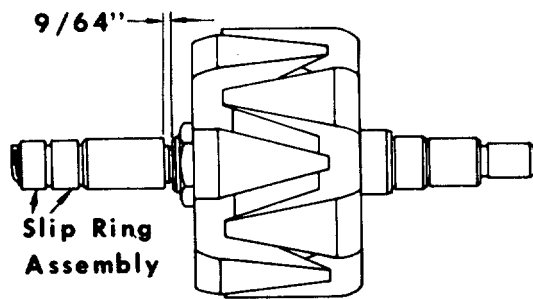

Fig. 23
- The inner bearing race may be reused if not damaged. Press the used or new bearing race on the shaft. The outside diameter chamfer must be installed toward the slip rings. The inner edge should be 9/64" from the 1" x 14 threads. (See Figure 23.)